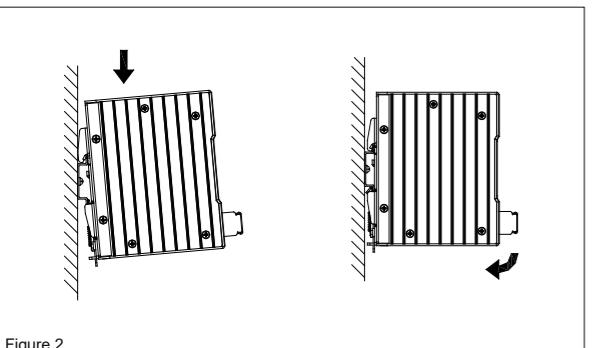

Figure 2
3. Mounting (Fig. 2)
Snip on the DIN rail as shown in Fig. 2: